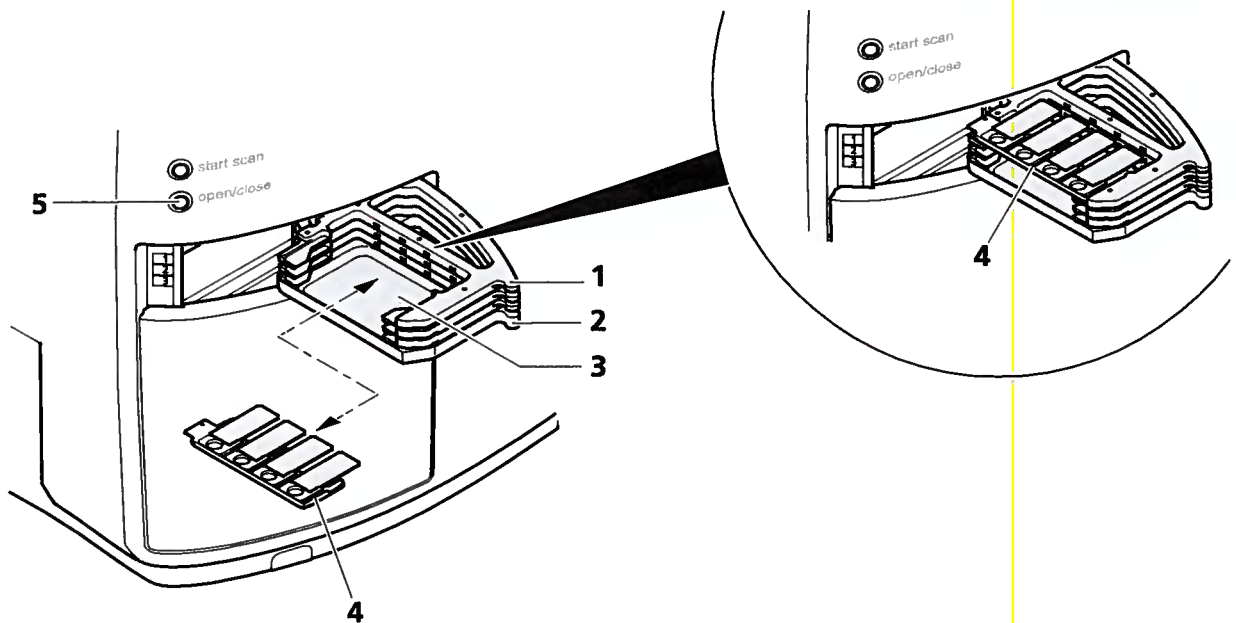

Fig. 4-9 Inserting and removing mounting frames
- Open the arched door to the magazine by pressing the **open/close** button (Fig. 4-9/5).
- Depending on the version, three numbered swivel compartments (for three mounting frames with max. 12 slides, see Fig. 4-9) or 25 numbered swivel compartments (for 25 mounting frames with max. 100 slides) will be visible.
- Each compartment can be independently swiveled in or out by means of the respective lever (Fig. 4-9/1).
With the trigger (Fig. 4-9/2) all compartments can be swiveled out simultaneously in a single operation and then loaded/unloaded successively from above.
- Now insert the mounting frame (Fig. 4-9/4) which has been loaded for digitizing into the swivel compartment (Fig. 4-9/3). Care must be taken to ensure that the mounting frame and slides lie horizontally inside the compartment.
- Close the arched door to the magazine by pressing the **open/close** button (Fig. 4-9/5).
- The magazine should be checked at regular intervals for deposits. It is designed so that solid particles (e.g. dust or glass fragments) fall into a collection tray (independent on the magazine type). To access this tray all compartments must be swiveled out using the trigger (Fig. 4-9/2). When open, the tray of the trigger can be accessed for cleaning.